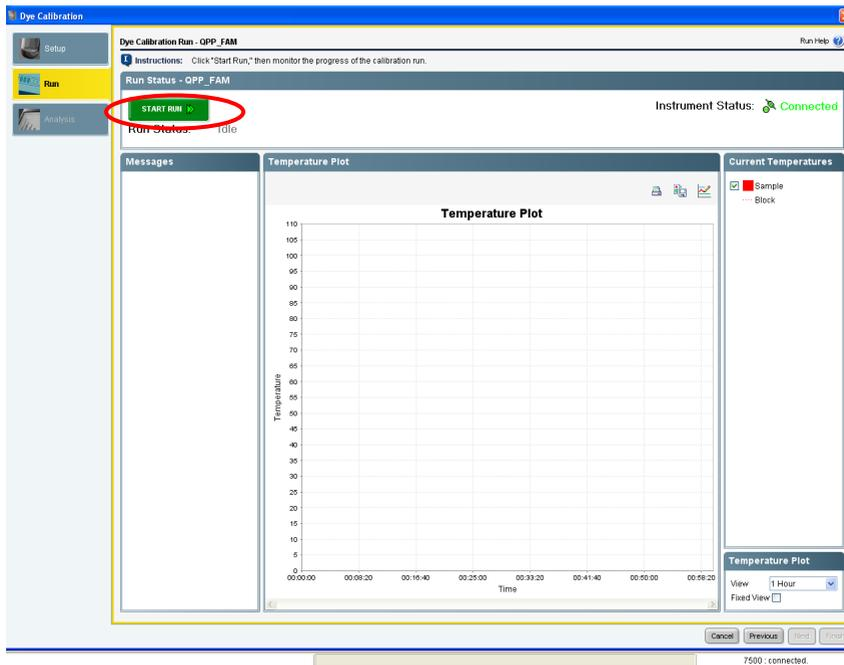

Figure 8. Starting calibration run.
9. Click **Next** and then **Start Run** (Figure 8).